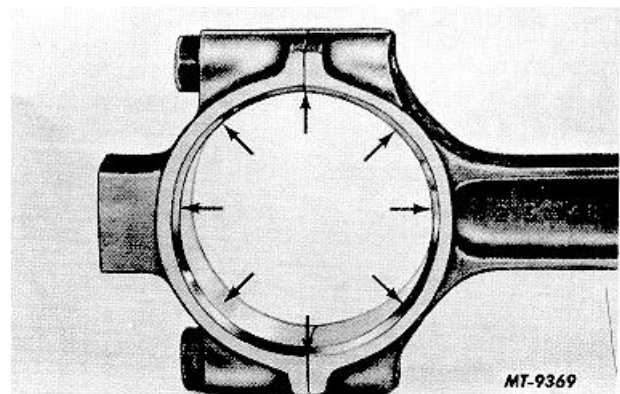

Fig. 75
1. **Roundness:** The bore of the connecting rod when assembled and the rod bolts and special hardened washers tightened to specified torque is round and should not exceed .0005" out-of-round, Fig. 75.